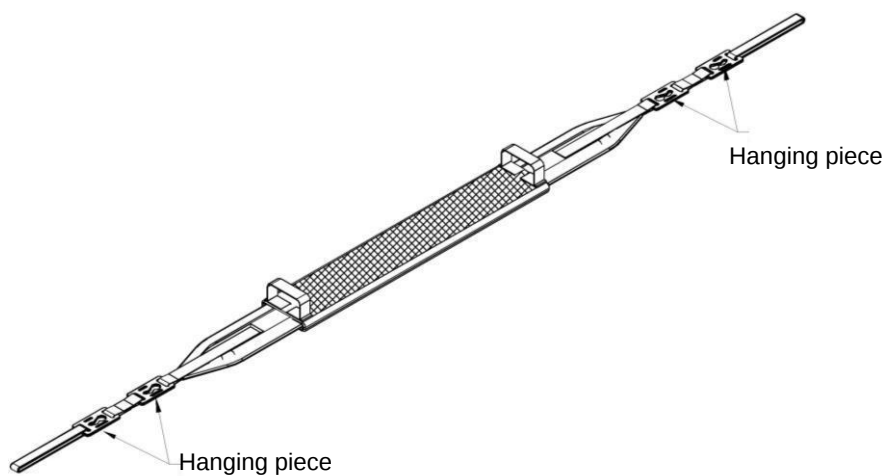

Fig.1
1. The safety belt is packed assembled. Simply remove it from the package for use.(Fig.1)